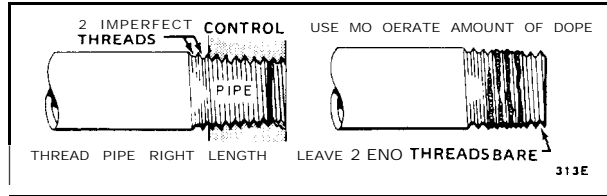

FIG. 5—USE MODERATE AMOUNT OF PIPE COMPOUND.
4. Apply a moderate amount of good quality pipe compound (DO NOT use Teflon tape) to pipe only, leaving two end threads bare. On LP installations, use compound resistant to LP gas. Refer to Fig. 5.